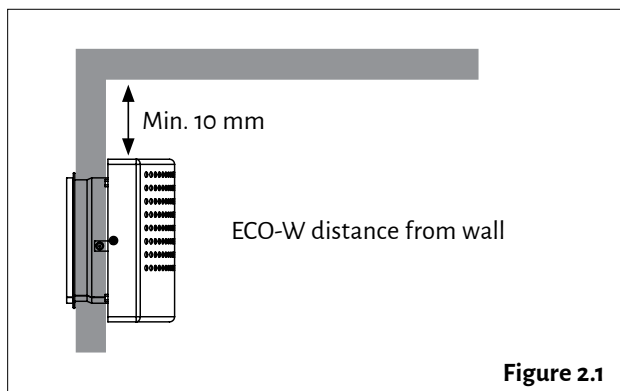
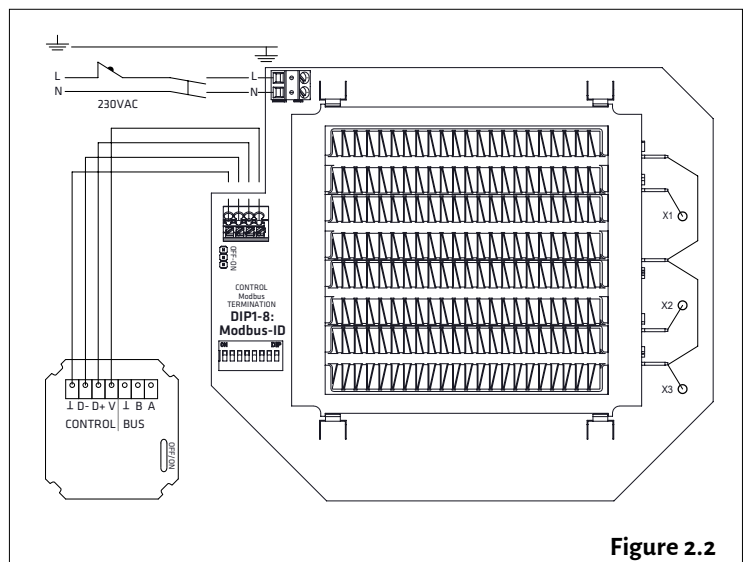

Figure 2.1
Figure 2.2
2. The minimum distance of the terminal device from the ceiling is 100 mm (see Figure 2.1). Install the terminal device at a minimum height of 1.8 m. Ensure that children cannot get their hands on the device.
3. Detach the grille (2) from the body. Remove the two fastening screws (3) and pull the grille off the body (1).
4. Insert the bottom section duct connector into the inlet air duct, and attach the body to the wall with screws (4) (2 pcs, max Ø 5 mm).
5. Connect the supply cable (MMJ) through a double-pole switch, and the control unit's data cable to the connectors in the electronics section of the terminal device, as shown in Figure 2.2.